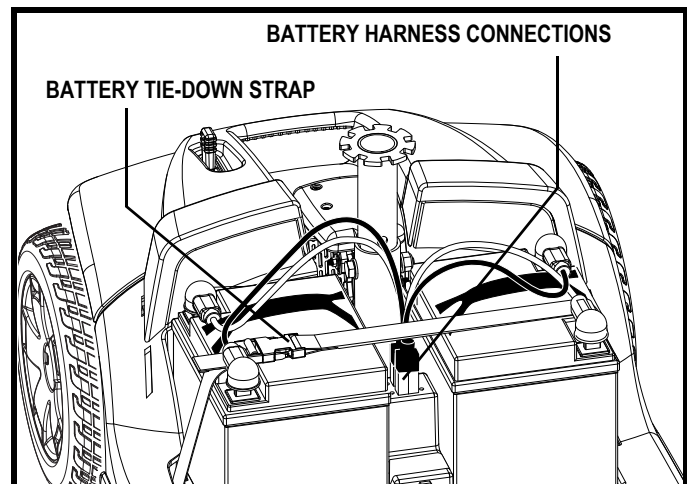

Figure 22. Harness Connections
4. Unplug both battery harnesses by pulling each harness straight up. See figure 22.
6. Disconnect both front-to-rear harnesses. See figure 22.
6. Connect both battery harnesses. See **figure 22**.